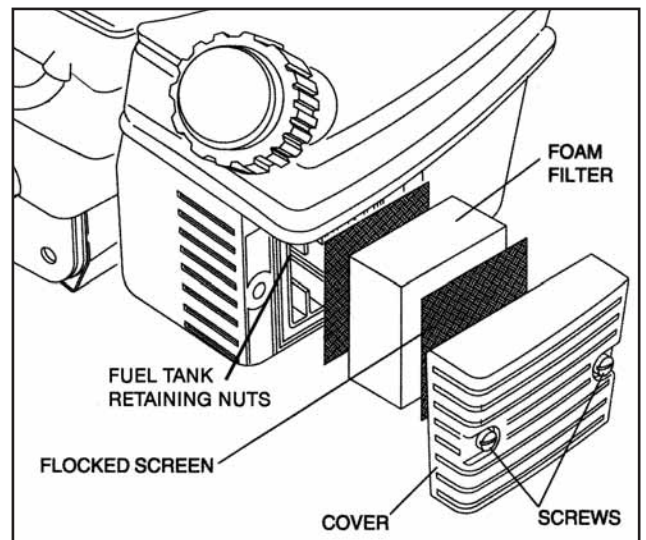

Figure 5
A. **TO REMOVE AND INSTALL FILTER(S):** (see Figure 5)
B. **TO SERVICE FILTER(S):** (see Figure 5)
C. **REASSEMBLE AIR CLEANER AS SHOWN IN FIGURE 5.**